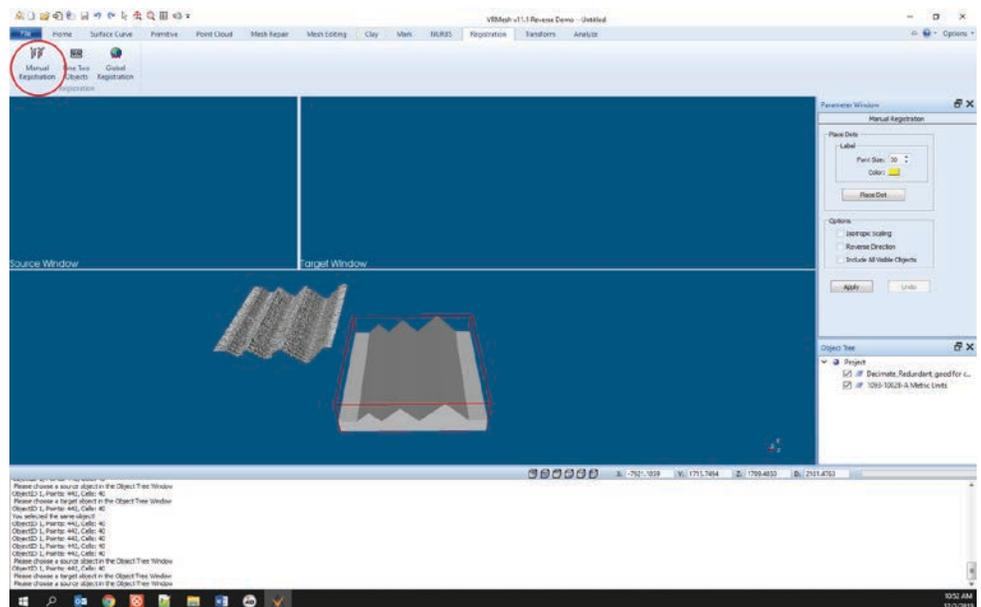

Figure 7. Locating “Manual Registration”
2. Once separated, Select the Registration tab and push “Manual Registration” (Figure 7).